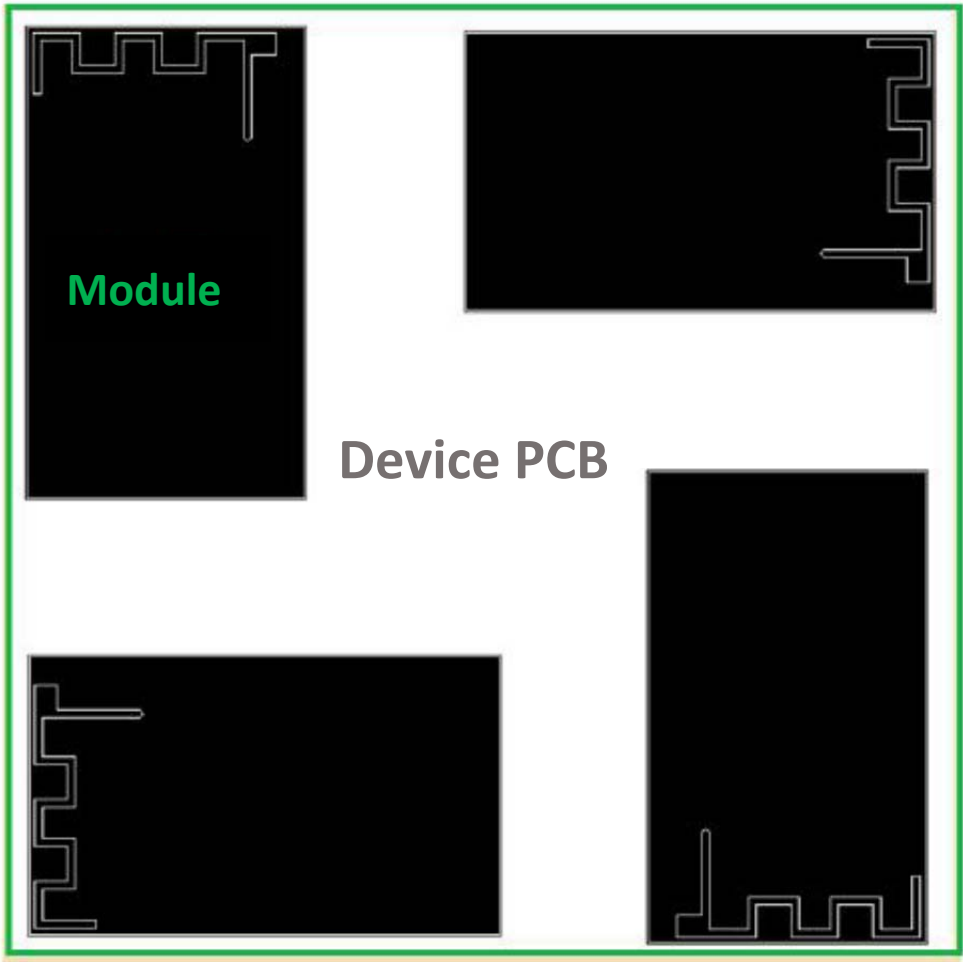

Fig 4 Optimal Position of Module
3. The preferred position for the module is shown in Fig 4.